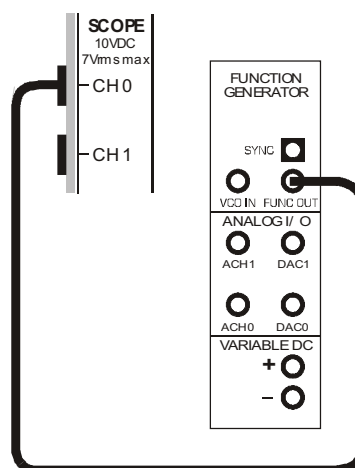

Figure 7
37. Connect the set-up in Figure 7 below.